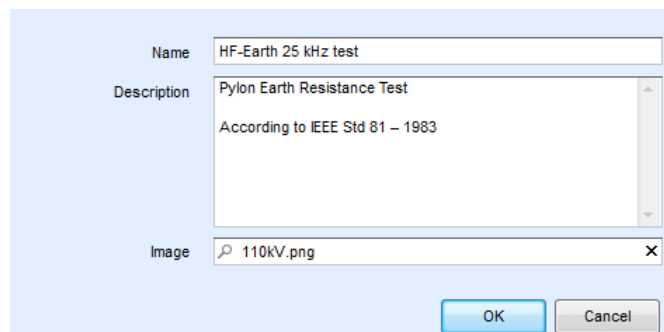

Figure E.6: Editing the Auto test header
-  **Auto test:** Edit Name, Description and Image (see Figure E.6).